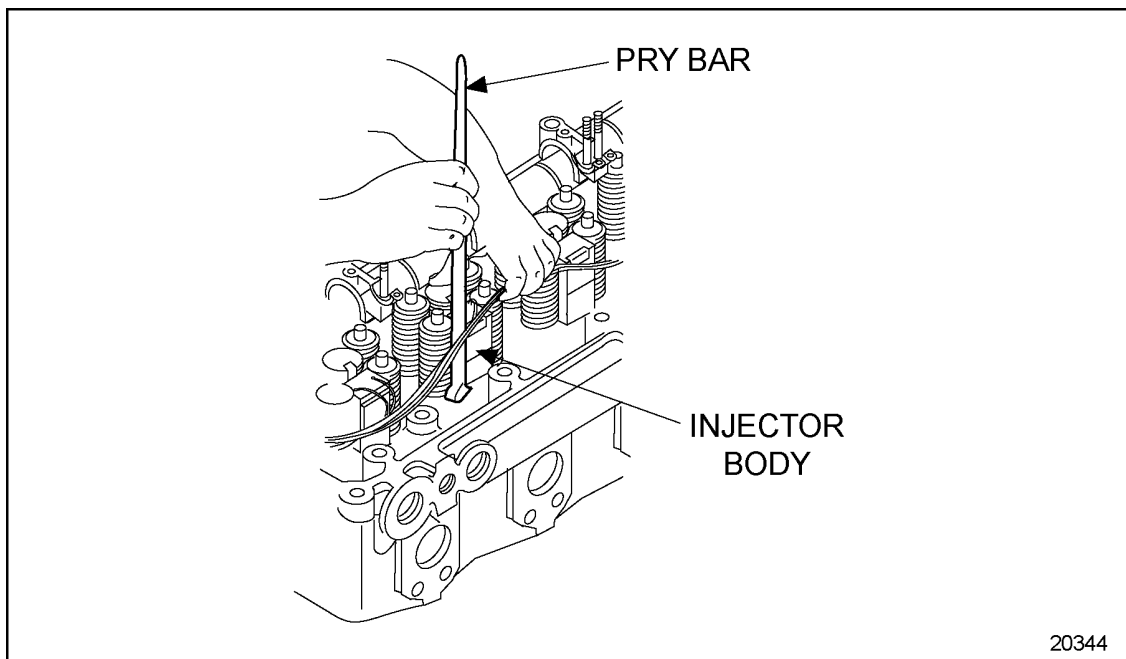

Figure 2-7 Removing EUI
3. Lift the injector from its seat in the cylinder head by inserting a pry bar under the injector body. See Figure 2-7.